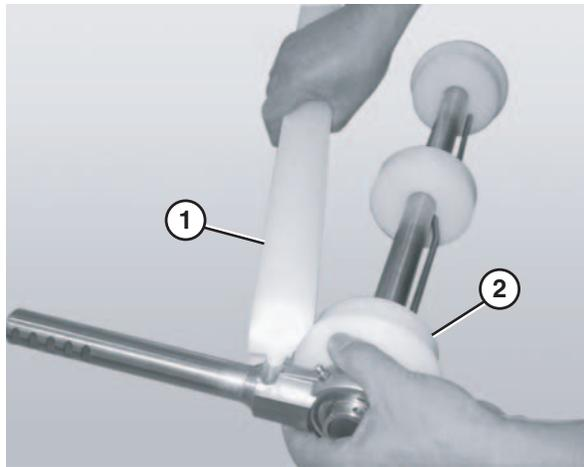

Figure 74
- Remove the guard bar (**Figure 74, item 1**).
- Remove the pucks (**Figure 74, item 2**).